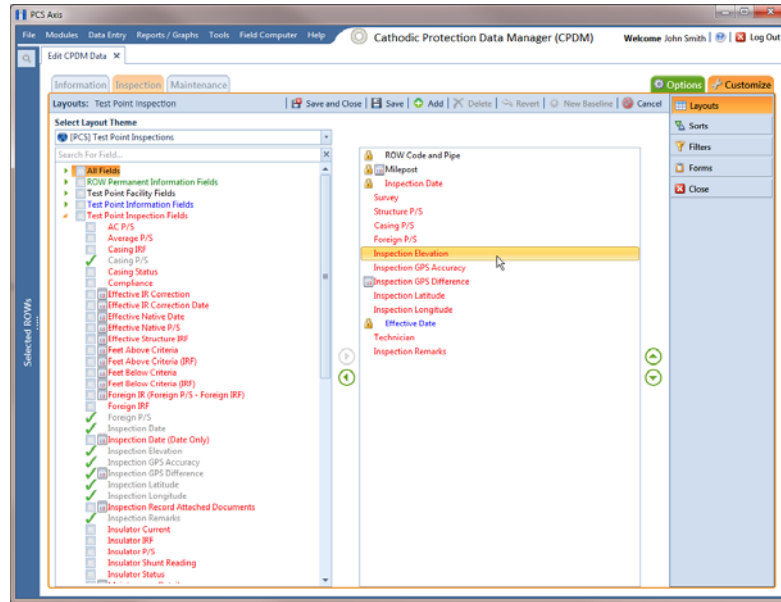

Figure 7-28. Layouts
- 3 Click the **Customize** tab  to view the *Layouts* page (Figure 7-28, page 311).